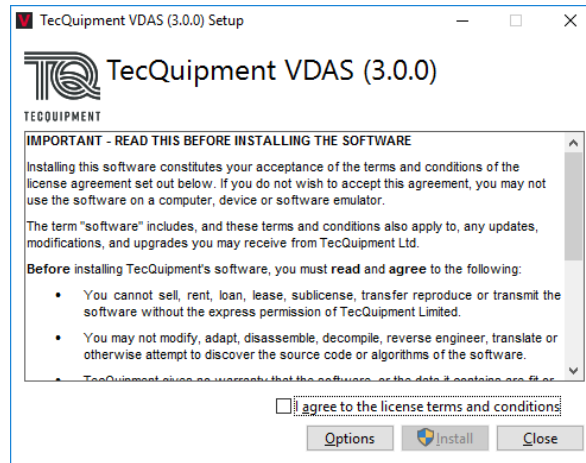

Figure 18 First VDAS® Installation Screen
3. The first screen of the TecEquipment software will appear as in Figure 18. Read the license terms and conditions, then select the option to agree. Click on the 'Install' button.